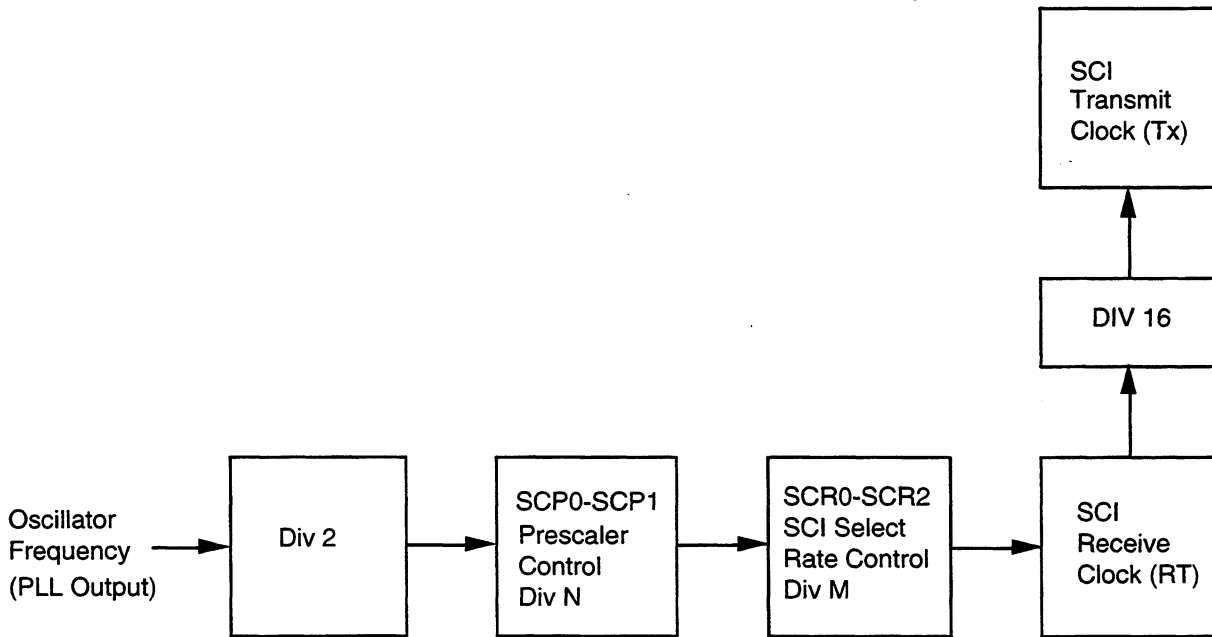

FIG. 5-7 Rate Generator Division
Fig. 5-7 and Tables 5-1 and 5-2 illustrate the divided chain used to obtain the baud rate clock (transmit clock). Note that there is a fixed rate divide-by-16 between the receive clock (RT) and the transmit clock (Tx). The actual divider chain is controlled by the combined SCP0-SCP1 and SCR0-SCR2 bits in the baud rate register as illustrated. All divided frequencies shown in the first table represent the final transmit clock (the actual baud rate) resulting from the internal processor clock division shown in the "divide-by" column only (prescaler division only). The second table illustrates how the prescaler output can be further divided by action of the SCI select bits (SCR0-SCR2). For example, assume that a 9600 Hz baud rate is required with a 2.4576 MHz PLL output clock. In this case the prescaler bits (SCP0-SCP1) could be configured as a divide-by-one or a divide-by-four. If a divide-by-four prescaler is used, then the SCR0-SCR2 bits must be configured as a divide-by-two. This results in a divide-by-128 of the internal processor clock to produce a 9600 Hz baud rate clock. Using the same PLL output clock, the 9600 baud rate can be obtained with a prescaler divide-by-one and the SCR0-SCR2 bits configured for a divide-by-eight.